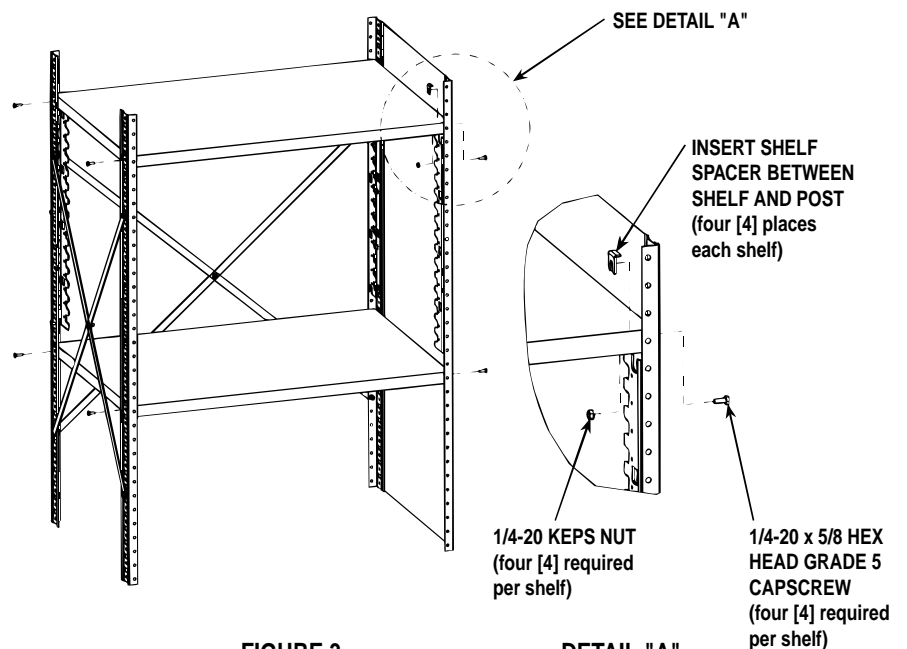

FIGURE 3
- Install the hex head screws from the outside of the unit through the post and then through the shelf. (See Figure 3)